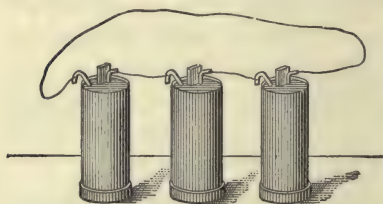
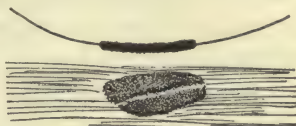

FIG. 75. — A battery of three cells.
FIG. 84. — A wire carrying current attracts iron filings.
**A battery of cells.** — The electromotive force of one cell may not give a current strong enough to ring a doorbell or to operate a telephone. But by using a number of cells, called a battery, the current may be increased to almost any desired strength. If three cells are arranged as in Figure 75, so that
**Heat.** — Any one who handles electric wires knows that they are more or less heated by the currents which flow through them. If three cells are arranged as in Figure 75 and the connecting wire is coarse, the heating of the wire is scarcely noticeable; but if a shorter wire of the same kind is used, the heat produced is slightly greater; and if the coarse wire is replaced by a short, fine wire, the heating of the wire becomes very marked. We are accustomed to say that a wire offers resistance to the flow of a current; that is, whenever a current meets resistance, heat is produced in much the same way as when mechanical motion meets an obstacle and spends its energy in friction. The flow of electricity along a wire can be compared to the flow of water through pipes: a small pipe offers a greater
**An electric current acts like a magnet.** — In order to understand the action of the electric bell, we must consider a third effect which an electric current can cause. Connect some cells as shown in Figure 75 and close the circuit through a stout heavy copper wire, dipping a portion of the wire into fine iron filings. A thick cluster of filings adheres to the wire (Fig. 84), and continues to cling to it as long as the current flows. If the current is broken, the filings fall from the wire, and only as long as the current flows through the wire does the wire have power to attract iron filings. An electric current makes a wire equivalent to a magnet, giving it the power to attract iron filings.